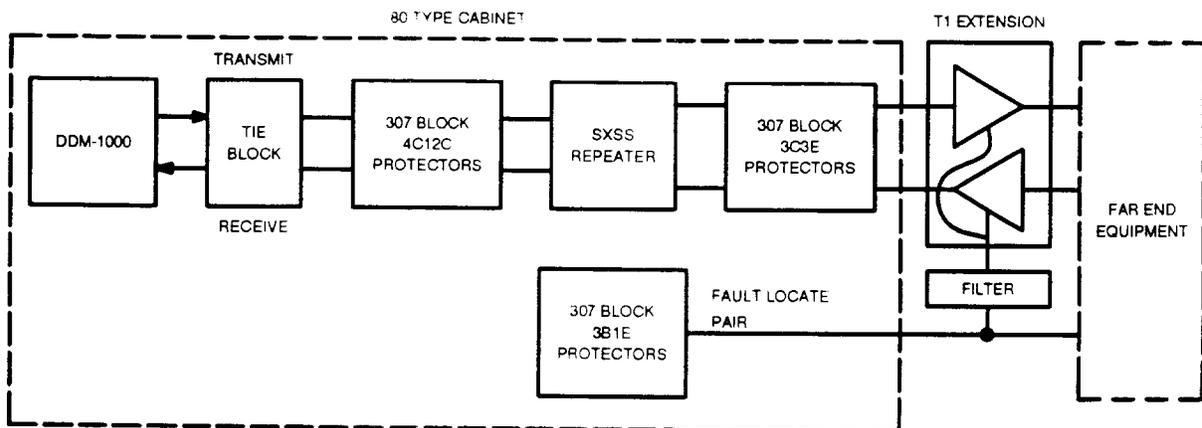

Figure 1 — 80-Type Cabinet T1 Extension Digital Line Configuration
3. Fault locating can be done single ended from far-end connecting equipment, from the 3C3E protectors for T1 line access using the 107B digital line powering set, or from the 4C12C protectors for DS1 level (through the repeater) access. See Figure 1 for a block diagram of T1 line arrangement. What type of fault locating do you want?